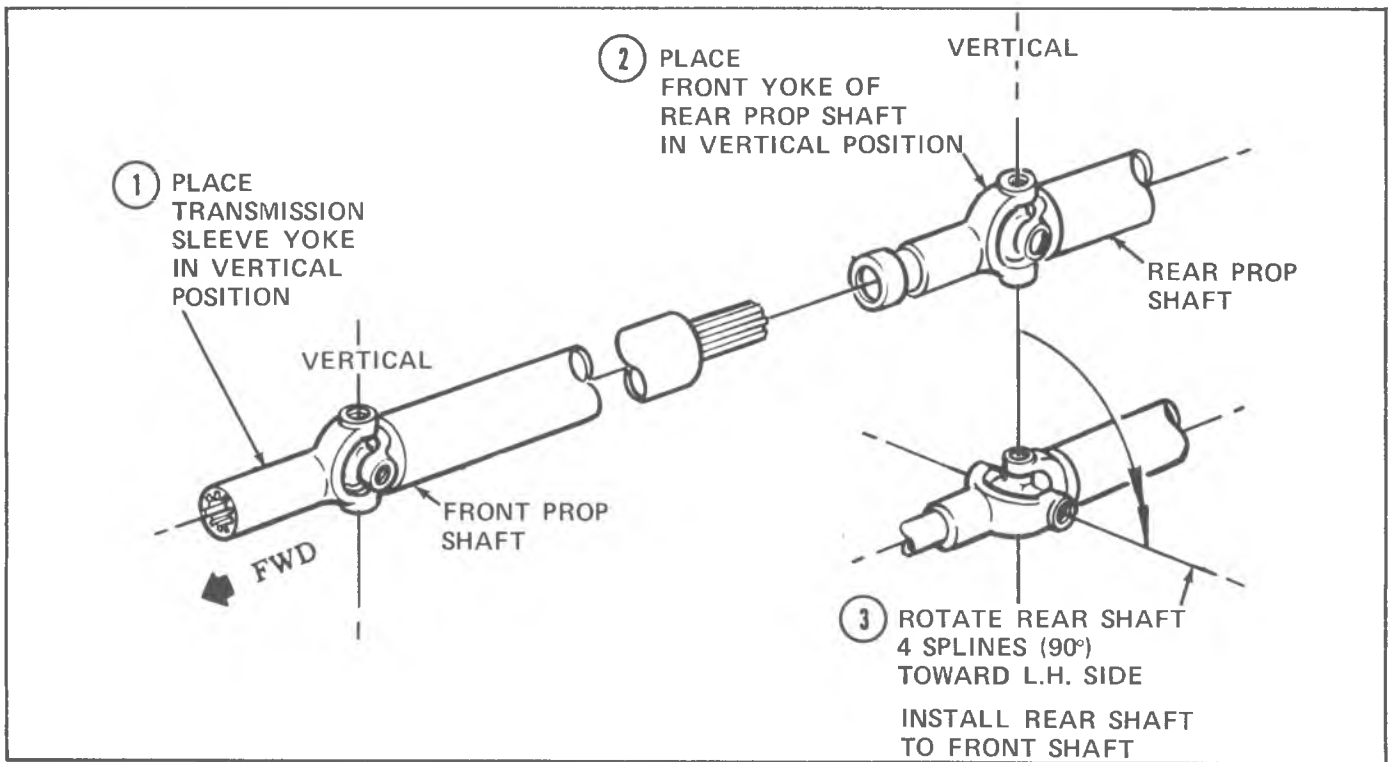

Fig. 8—Alignment for Phasing—C and G Models Only
**C and G models with 16 splines** must be phased as shown in figure 8. The rear shaft must be rotated four splines—90°—toward the left side of the vehicle **after** aligning the trunnions vertically, as shown.